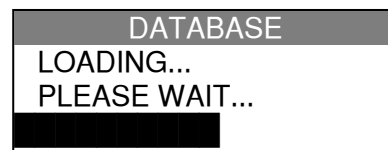

Fig. 4
- Then is loading it displays its database as **Fig. 4**, after an update, this operation can take several minutes.